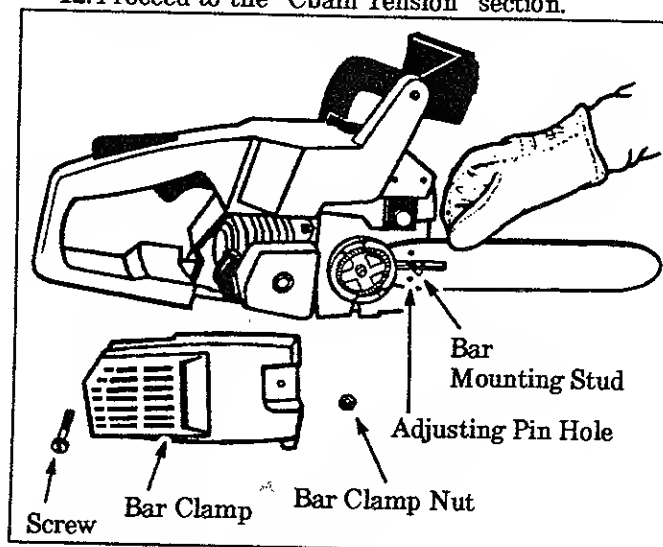

Figure 6
- Mount the guide bar with the slotted end over the bar mounting stud. Figure 6. Position the adjusting pin in the adjusting pin hole. Figure 6.